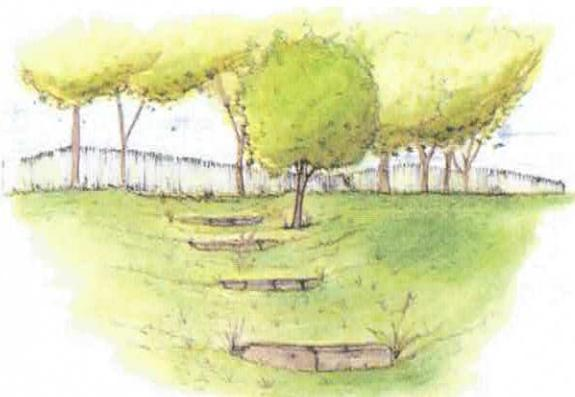

Figure 2. Check dams within a swale slow the flow, allowing sediments to settle out and some infiltration to occur.
**STEP 3 – Check dams.** For swales on steep slopes (5% or steeper), berms or check dams can be used to slow down the flow of runoff and reduce the potential for erosion. These can be made of compacted earth and reinforced with plantings and stone, or can be made of larger stones. Be creative. Check dams made with large stones can become beautiful landscape features. See Figure 2.